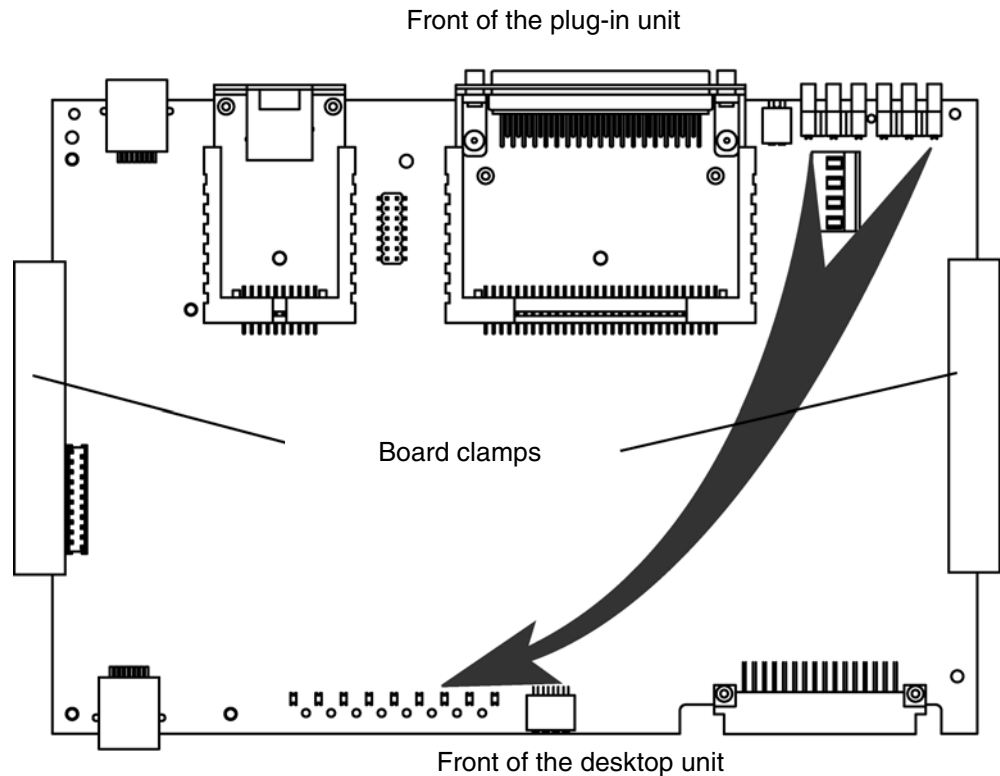

Fig. 2.37 Conversion plug-in unit → desktop unit
5. Insert the optical waveguides on the “Desktop side” into the module, see Fig. 2.37 and supplement the waveguides with a third block
5. Remove the optical waveguides and reinsert two groups on the front of the plug-in unit, see Fig. 2.37
6. Install the front panel on the front of the plug-in unit, see Fig. 2.37